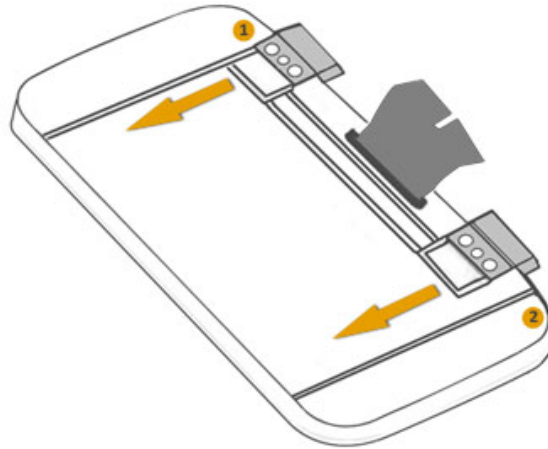

Figure 4
- Using a small Phillips screwdriver, unscrew two Phillips screws from the unit at the locations indicated in figure 4.
- Now you need to remove the back cover from the unit that includes the slider mechanism. Use a safe open pry tool to carefully unclip the clips holding this cover to the unit. Insert the tool between the edge (preferably start from the gap created by 'Power' button) and then slide the tool along the sides in the clockwise direction, to unclip the clips. Note that you will need to slide in the remaining assembly (indicated by orange arrows in figure 4) in order to pry up that side of the cover. Also note that once you have run the pry tool along the sides, you need to separate the tape between the main FPC and the cover before you remove the cover from the unit.